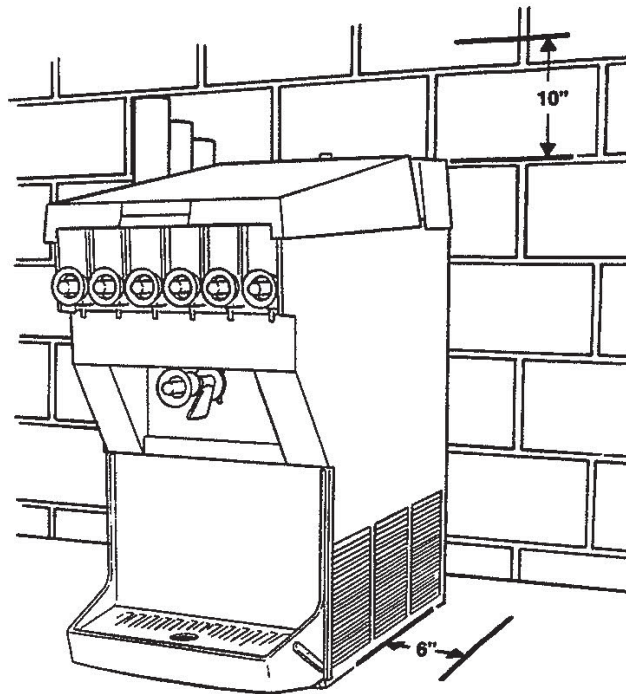

Figure 4. Space and Ventilation Requirements
Air cooled requires minimum 6" (15.2 cm) air clearance on louvered side and 10" (25.4 cm) air clearance above unit. No clearance needed on non-louvered side and rear. (See Fig. 4, page 7.)
- C. The freezer is equipped with an air cooled condenser and requires correct ventilation. The louvered side of the freezer is the air intake and **must** have 6" (15.2 cm) clearance. Air discharges out the top at the rear of the unit. **Do not** obstruct the discharge. Allow a 10" (25.4 cm) clearance above the unit (Fig. 4).